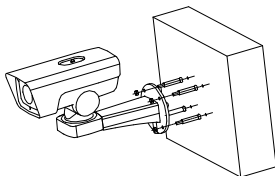

Figure 2-57 Install the Wall-mounted PTZ Bullet Camera
1. Rotate the base plate counterclockwise to separate it from the PTZ camera, as shown in Figure 2-57.